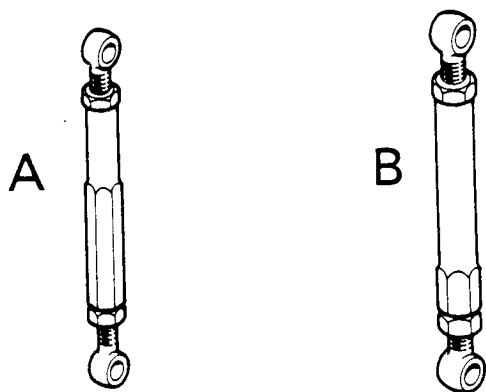

Figure 23. PTO CLUTCH TOGGLE LEVERS
**Release Lever Toggles:** If the PTO lever toggles are being renewed ensure that the correct toggles are being used. A number of early clutches were fitted with  $\frac{7}{8}$  UNF toggles and these must not be replaced by  $\frac{3}{4}$  UNF toggles, which are thicker and would not operate freely. (Fig. 23.)